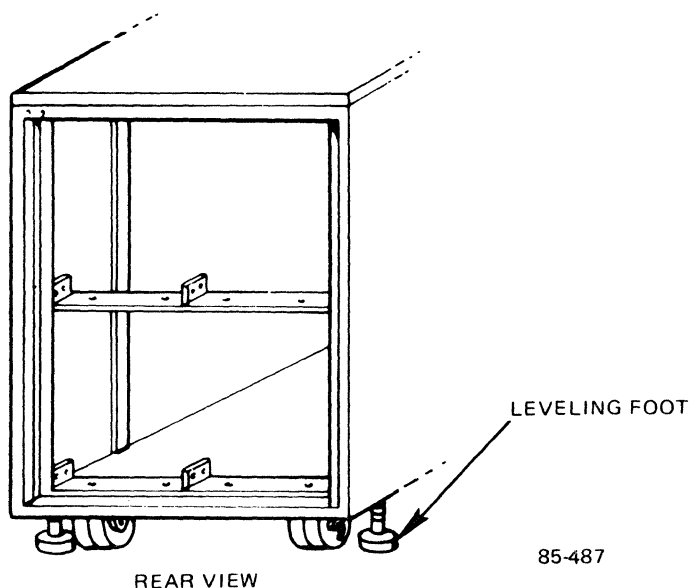

Figure 2-10. Lowering the Leveling Feet
6. Lower the leveling feet at the rear of the cabinet (see Figure 2-10) until the rear of the cabinet rests on the feet and not on the casters. Ensure that the cabinet is level by adjusting the two feet.